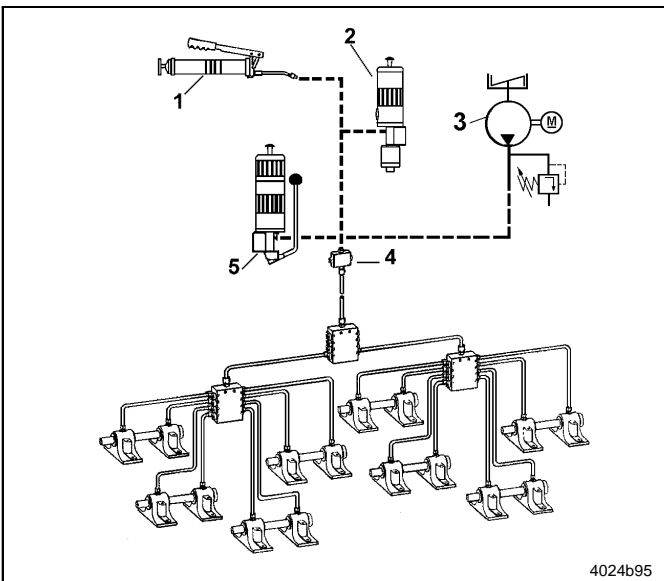

Fig. 13 Possible pump connections
- When they are used in connection with hand-operated pumps, pneumatic or electric pumps the progressive metering devices are a simple and low-cost centralized lubrication system. See Fig. 13.